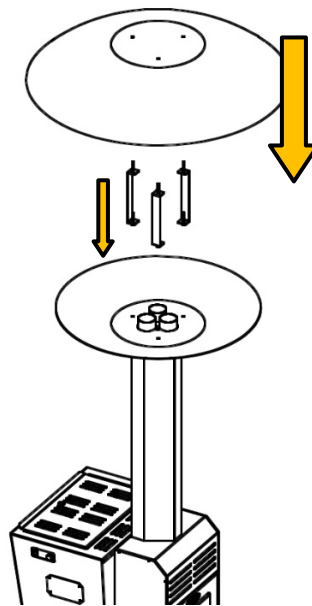

Fig. 5
- 4 Lay the three support and the upper dish, then secure everything (*Fig.5*)